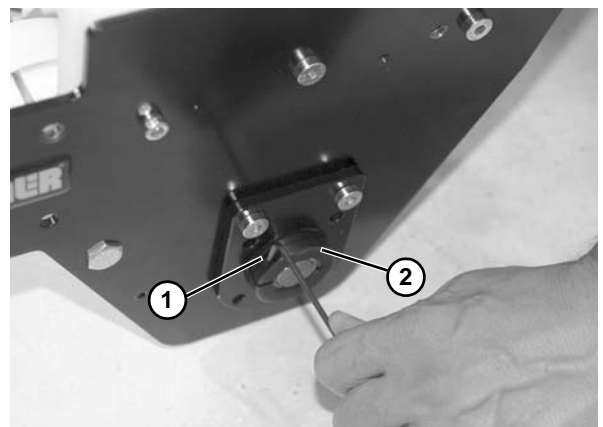

Figure 56
8. Loosen the bearing collar set screw (Figure 56, item 1) and remove bearing collar (Figure 56, item 2).